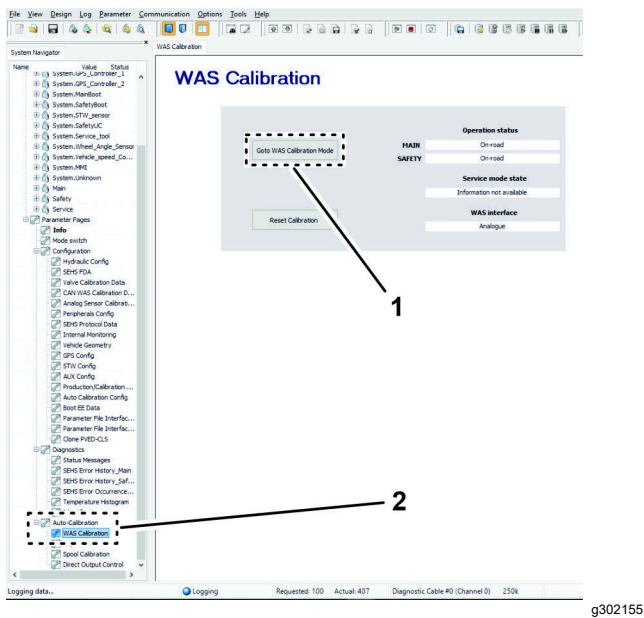

Figure 147
10. In the System Navigator tab, navigate the AUTO CALIBRATION directory, and click the + icon (Figure 147).
11. Click the WAS CALIBRATION icon (Figure 147).
2. On the WAS CALIBRATION screen, click the GOTO WAS CALIBRATION MODE icon (Figure 147).